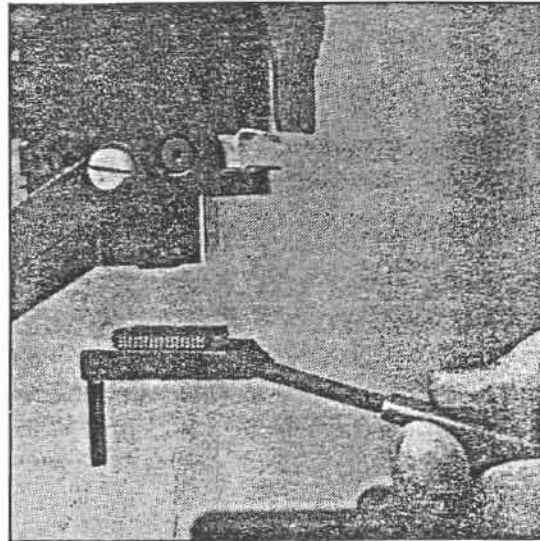

FIGURE 11. NOZZLE CHIP TOOL
- depress Vacuum Switch to terminate vacuum, releasing component onto the Nozzle Chip Tool, refer to Figure 11,
- depressing the Vacuum Switch will terminate vacuum, releasing the component onto the Nozzle Chip Tool, refer to Figure 11,